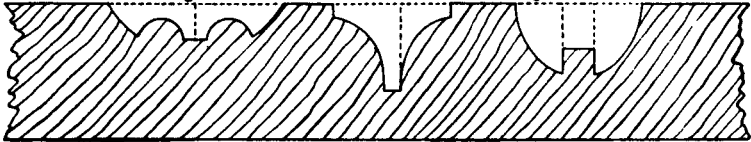

Fig. 80
*Fig. 80* shows three more sections of mouldings; the first from the left being made with the quarter round with bead but not carrying the cutter down to its full depth. The middle one is formed by using the quarter hollow cutter in the same way. The one to the right by the quarter round, the fence being set so that a small upstanding square is left at the bottom. If the square is first made to the proper height with a plow cutter, thus removing some of the waste stock, the working of the quarter rounds will be materially aided.